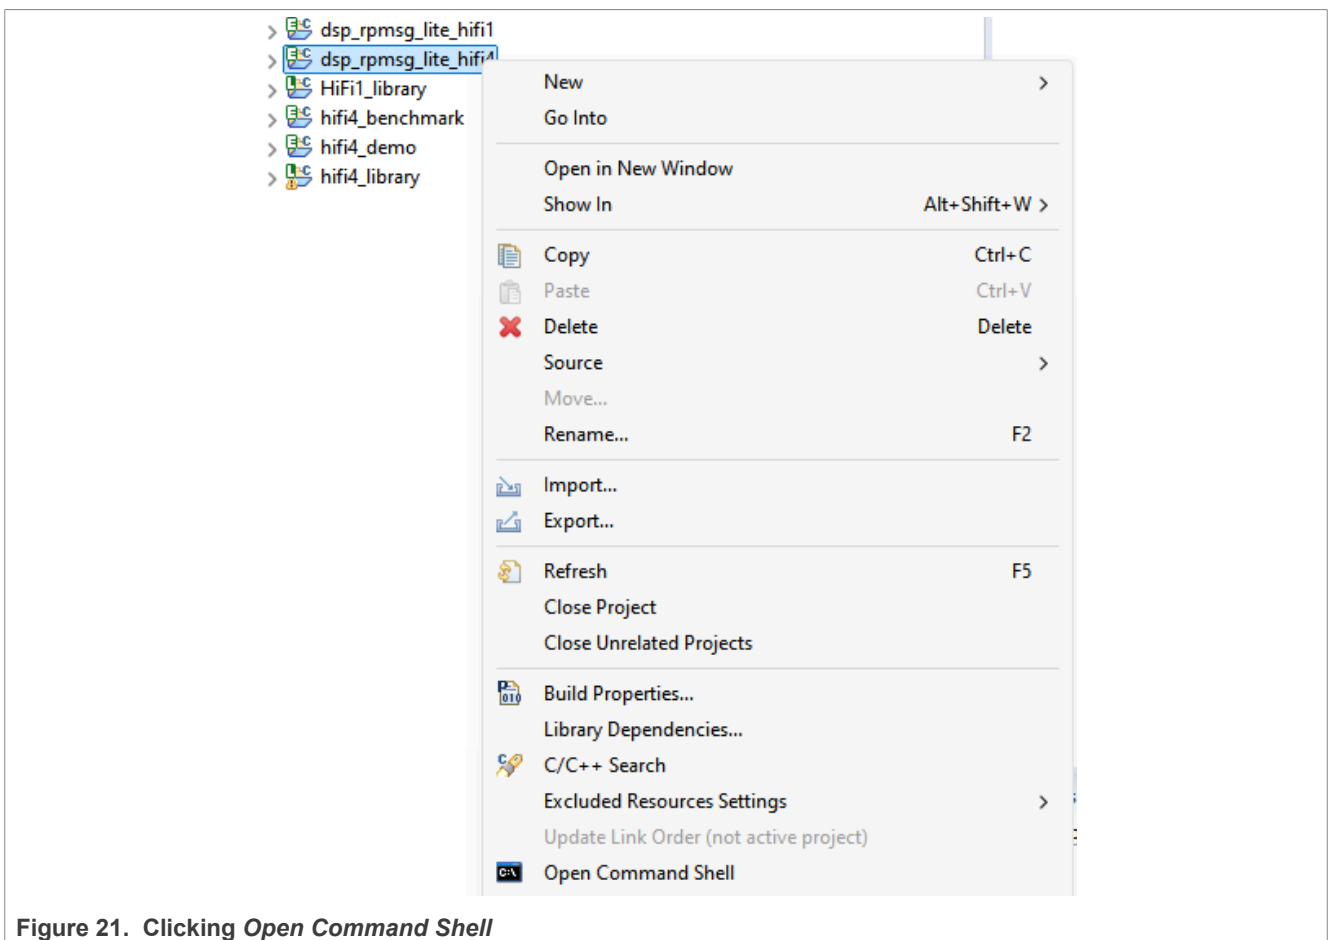

Figure 21. Clicking *Open Command Shell*
2. Right-click the project and select **Open Command Shell** as shown in Figure 21.